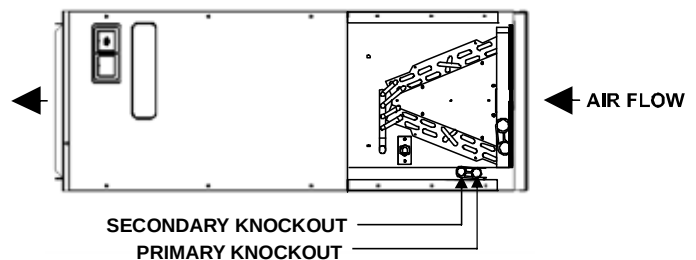

Figure 2
7. The air handler can now be placed in its left horizontal position as shown in Figure 2. The air handler must be leveled and then pitched $\frac{1}{4}$ " toward drain side.
5. Slide the coil assembly into air handler and reattach the metal coil retainer bracket to tie bracket. See Fig. 2. Then reattach the upper access panel followed by the two lower access panels to match the tubing and drains.